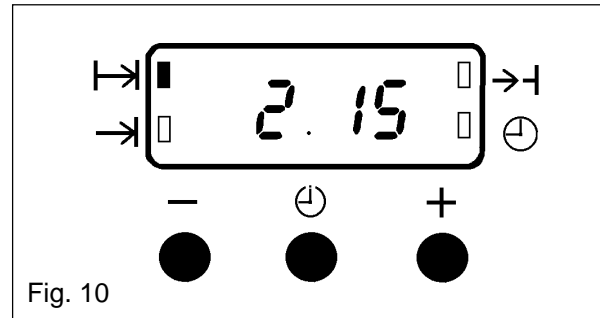

Fig. 10
- iii) To set the length of cooking time, press the Selector Control button until the 'Cook Time' (H→) indicator is illuminated. Press the increase control (+) until the required length of cooking time is displayed, e.g. 2 hrs 15 mins as Fig. 10. Depress the decrease control (-) if necessary.